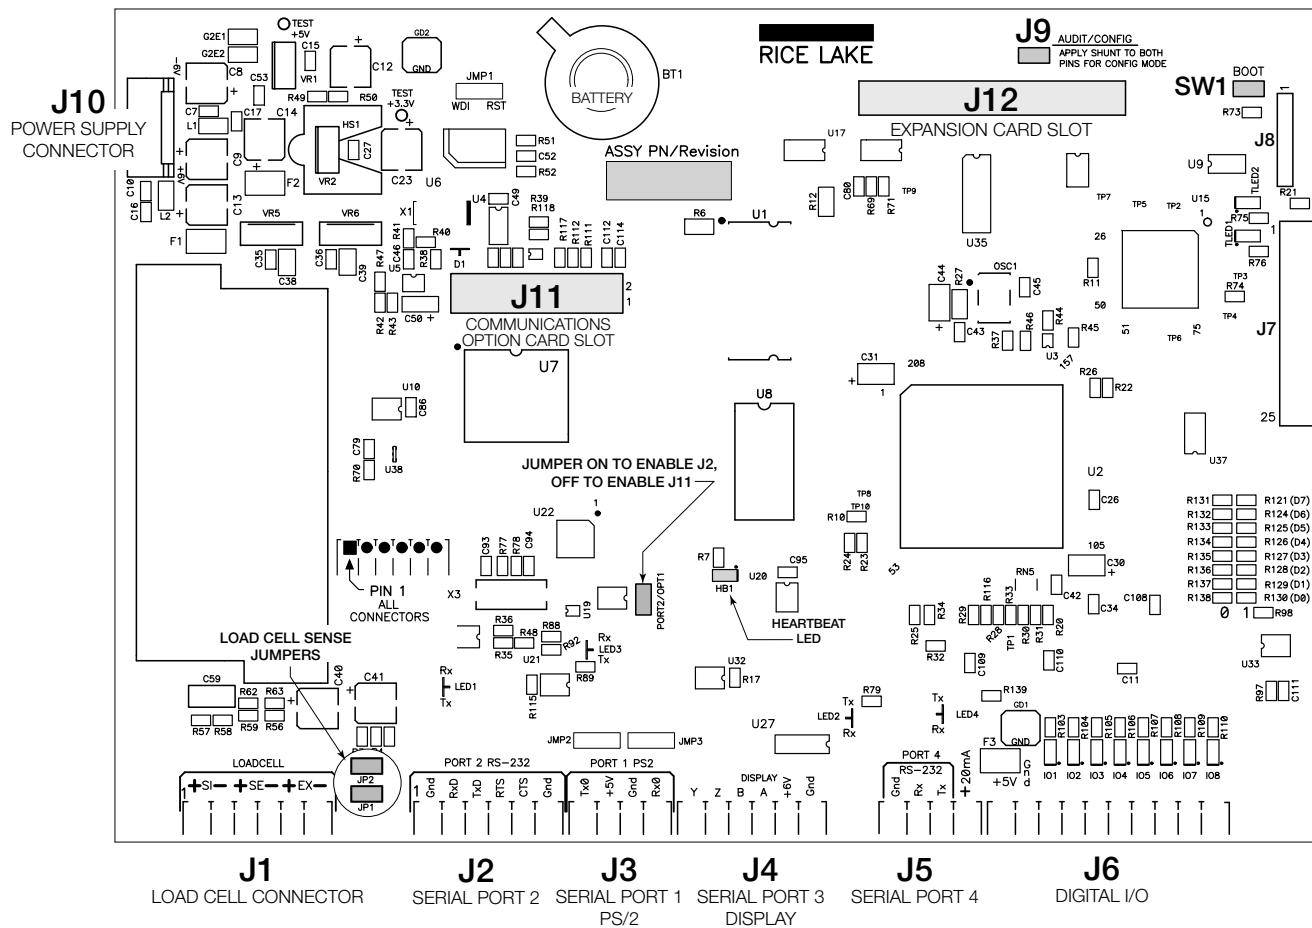

Figure 2-3. 720i CPU Board
**NOTE:** Installation of option cards in connector J11 requires removal of the PORT2/OPTI port selection jumper (see Figure 2-3 on page 9). Install the jumper to enable RS-232 communications through connector J2; remove the jumper to enable an USB, fiber-optic, or Ethernet option card installed in connector J11.
Table 2-4 shows the connections between connector J4 on the 720i CPU board and connector J3 (Com 1) on the detached display module (DDM) board. See board diagrams in Figures 2-3 and 2-4, on page 9.
2. Carefully align the option card connector with connector J12 or J11 on the CPU board (see Figure 2-3 on page 9). Press down to seat the option card in the CPU board connector.
3. Use the screws provided in the option kit to secure the other end of the option card to the threaded standoffs on the CPU board (see Figure 2-3).
Table 2-5 lists the slot numbers, CPU board connectors, and configuration assignments made for both onboard and expansion card functions in the 720i. See Figure 2-3 for connector locations.
See Figure 2-3 on page 9 for CPU board battery location and orientation (positive side up).